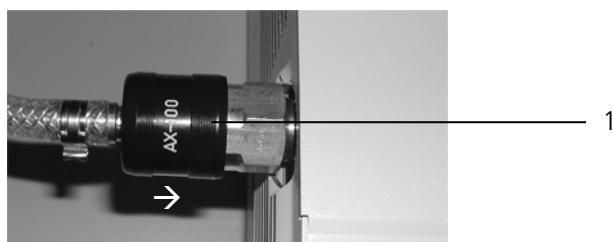

Fig. 4 – 2 System venting
- Vent the compressor system before removing the compressed air tube. To do so, press the rapid action safety coupling (Fig. 4 – 2/1) provided for the compressed air tube towards the rear panel of the compressor until it snaps into place.